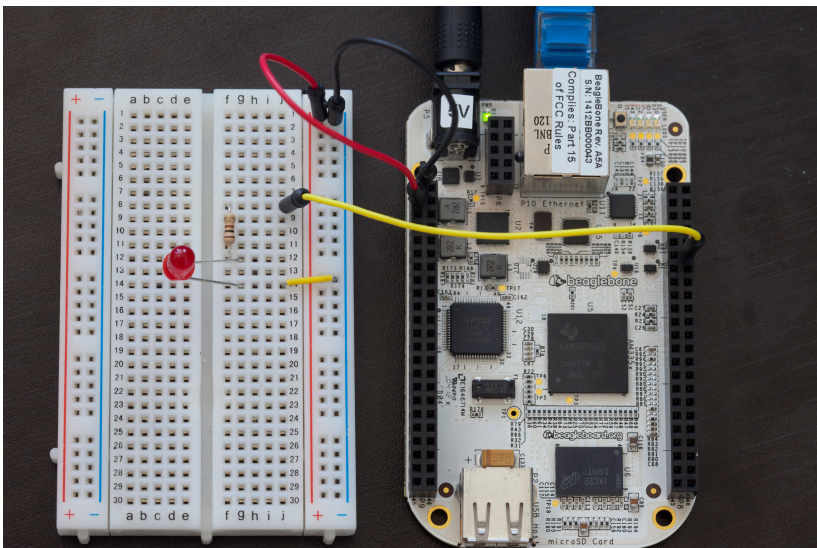

Figure 4-3. Wiring up an LED to GPIO to pin 12 on header P8 (GPIO 44)
- Connect the other side of the 100 ohm resistor to pin 12 on header P8. On a 100 ohm resistor, the color bands printed on it will be brown, black, brown, and then gold or silver. Your circuit should look like Figure 4-3.